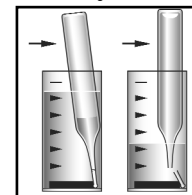

Figure 3
For improved accuracy with colored or turbid samples, Sample Zeroing Accessory Pack, Cat. # A-0503 is available for use with CHEMetrics photometers only. Using the sample cup, snap the tip of the A-0503 ampoule in the sample as shown in figure 3 (diluted sample for K-9923). Invert the ampoule to mix. Dry the ampoule and use it in place of the supplied ZERO ampoule to zero the instrument.
3. Place the Vacu-vial ampoule, tip first, into the sample cup. Snap the tip. The ampoule will fill leaving a bubble for mixing (fig 3).